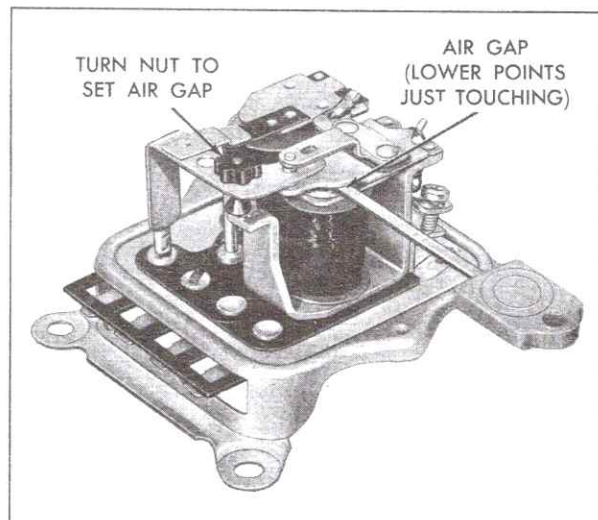

Fig. 6-45 Checking Voltage Regulator Air Gap
10. To decrease the difference in voltage between upper and lower contact operation, turn the nylon nut, Fig. 6-45 clockwise a slight amount. To increase the difference, turn nylon nut counterclockwise. If this adjustment is made, the voltage setting must be re-checked as covered in Steps 1 through 9.
1. With lower set of contact points just touching, insert a .060 inch feeler gage between armature and coil core, and adjust by turning nylon nut located on contact support, Fig. 6-45.